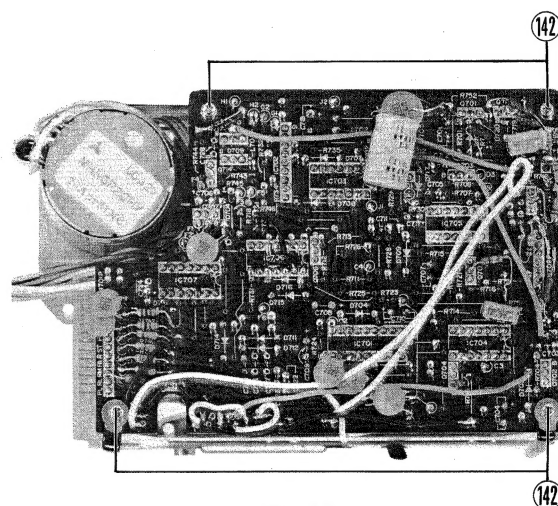

Fig. 11
F. Mecha. control P.W. board ass'y (Fig. 11)